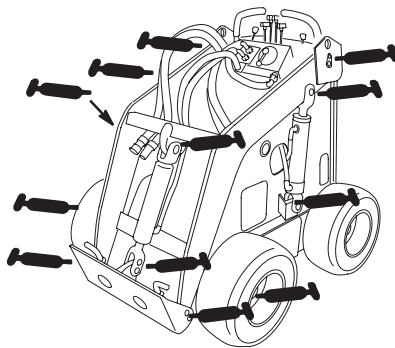

Figure 15
3. Connect a grease gun to each fitting (Fig 15 and 14).